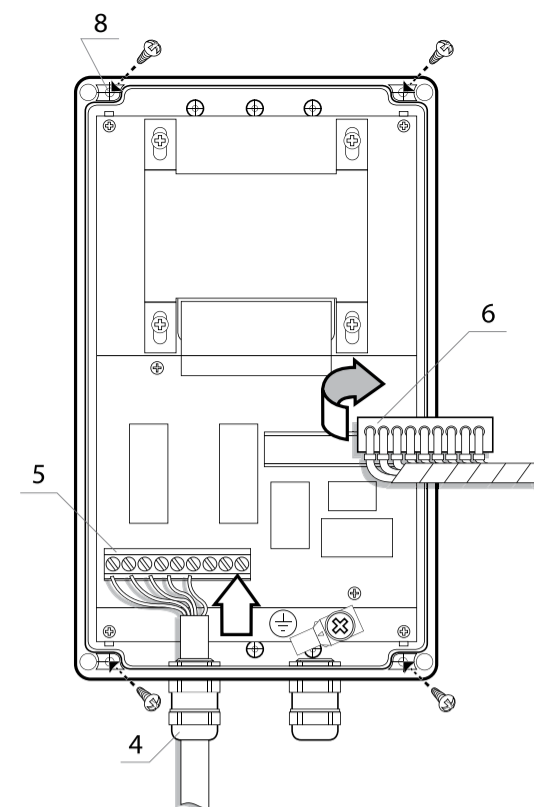

Fig. 3
- To facilitate installation unplug connector 6 (see Fig. 3);
- Complete the electrical connections according to the wiring diagram (see Fig. 4). The external wires are connected to the device by means of bolt-and-nut terminals 5 (see Fig. 3). The cables are routed into the unit through sealed lead-ins 4 (see Fig. 3). The external lead-in (220V/50Hz) must be equipped with an automatic switch built into the stationary wiring.
- Plug in connector 6 (see Fig. 3) and replace the front cover. Supply the power voltage and start the device.